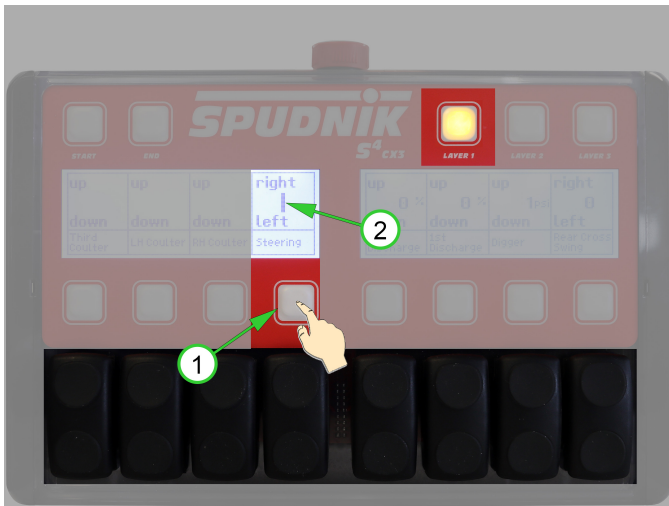

Figure 30
1. Press the *LAYER 1* rocker switch 4 (*Steering*) up/down to position the windrower's steerable wheels so they are parallel, and the windrower tracks straight behind the tractor. (See Figure 30)
2. Confirm the (1) *LAYER 1* soft key 4 (*Steering*) is not illuminated, indicating the auto return to center function is turned off.
3. Press and hold *LAYER 1* soft key 4 (*Steering*) for approximately three seconds. A beep confirms the setpoint has been set, and the (2) turn indicator displays the steering position as centered.
4. Test the setpoint by steering left or right, then engaging the auto return to center function by momentarily pressing *LAYER 1* soft key 4 so it illuminates. Confirm the windrower tracks straight behind the tractor.